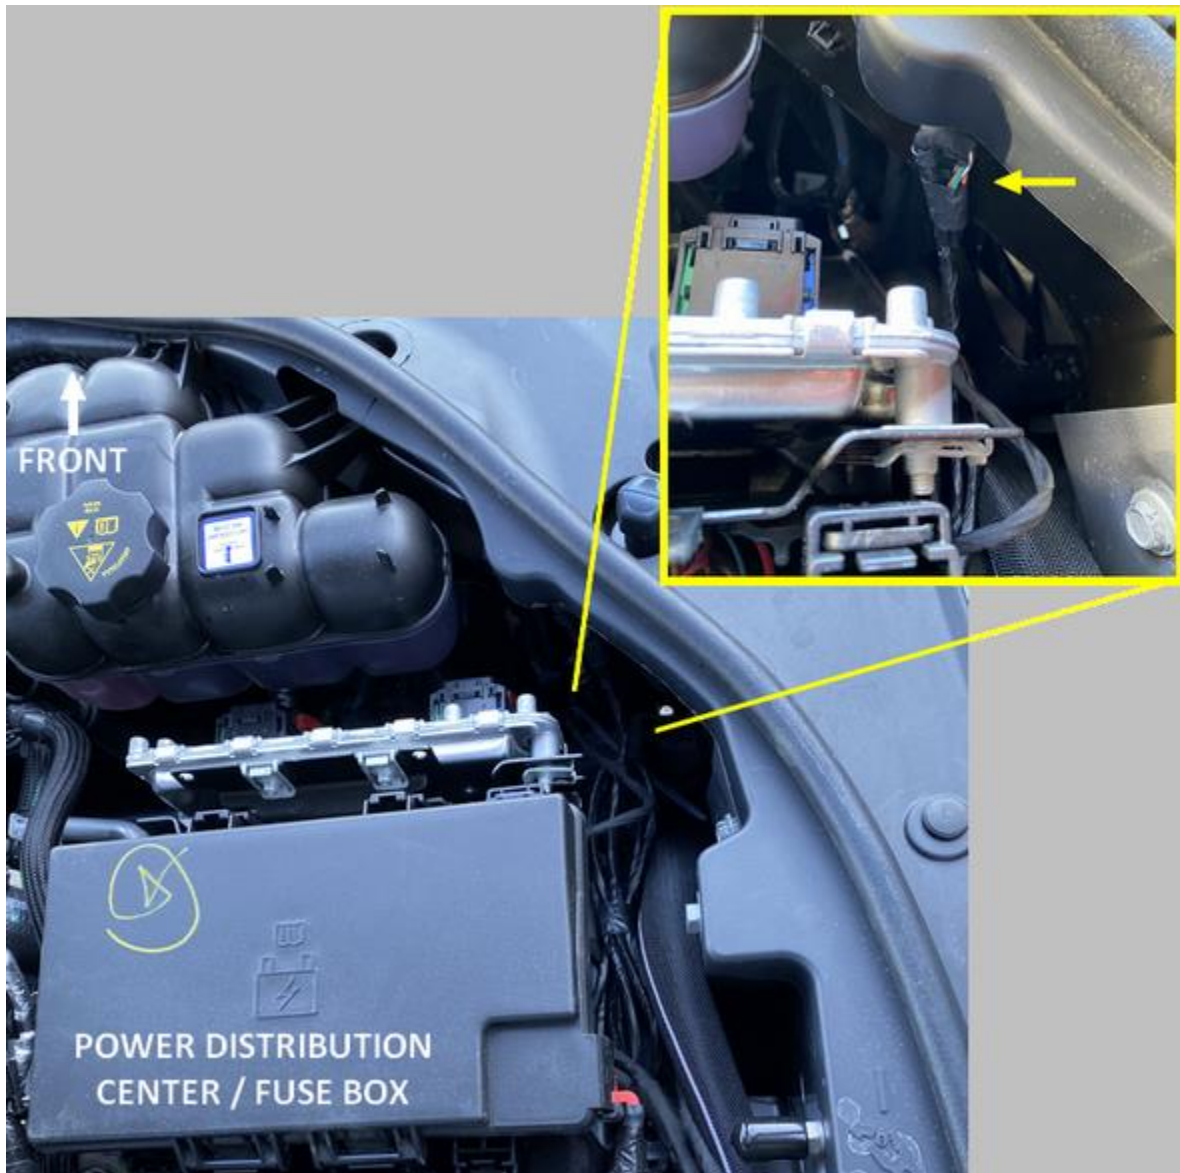

Figure 18: Underhood pass-through circuits location (6 circuits total)
NOTE: The 12-way connector is located in the underfloor bin along with the (2) 24-way VSIM upfitter connectors. The opposite end of the 18 gauge pass-through circuits in cavities 7-12 of the 12-way connector can be found bundled as blunt cut wires near the underhood power distribution center, see figure 18.